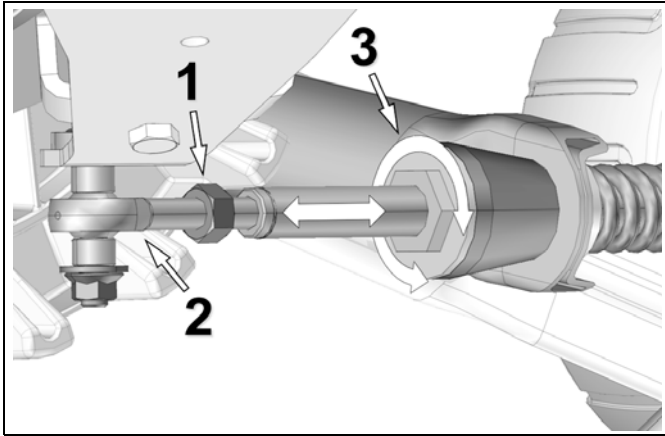

Figure 6
- Loosen jam nut (1). Adjust length of rod end (2) by rotating the stabilizing arm (3) to obtain **308 mm [12 1/8 in]** above the ground. Refer to Figure 6.